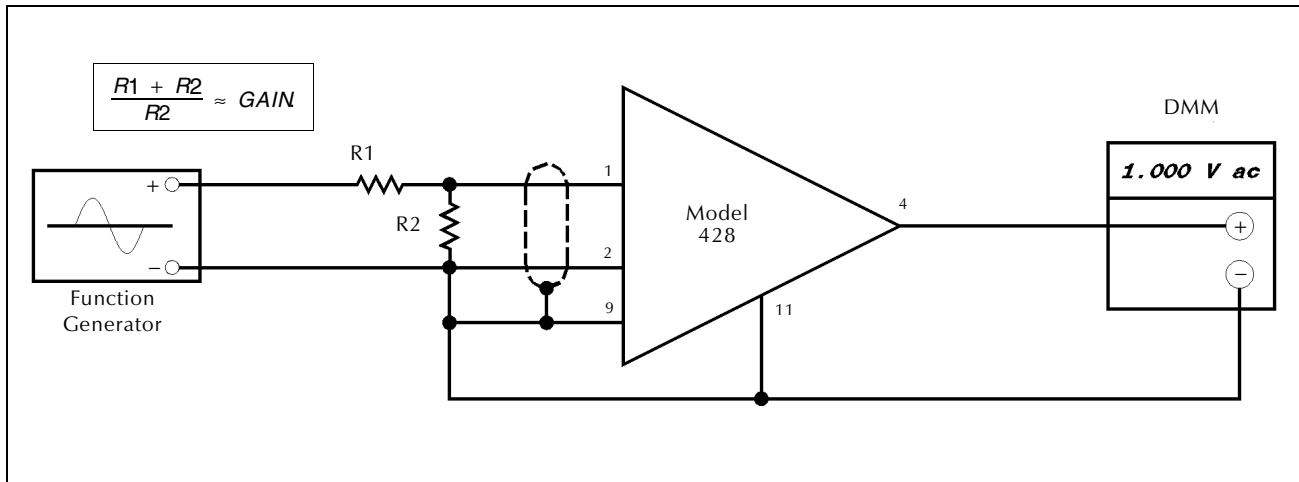

Figure 5-10
1. Connect the amplifier as shown in Figure 5-10. For R1 and R2, use either metal-film or carbon-film or carbon-composition resistors. R2 should not be less than 100 Ω.